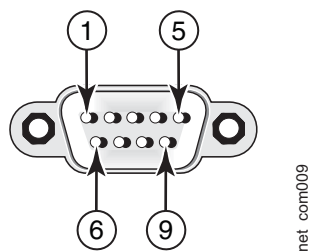

Figure 25. Serial port (DB-9 DTE) pin-out
1. Connect a PC or terminal to the serial port of the system using a straight-through cable. The serial port has a male DB-9 connector. See Figure 25.
The EIA or TIA 232 serial communication port serves as a connection point for management by a PC or SNMP workstation. The y-series devices come with a standard male DB-9 connector, shown in Figure 25.